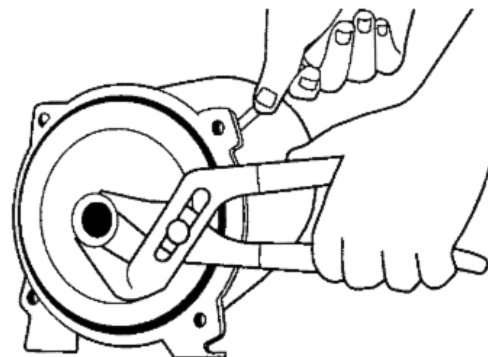

Figure 16: Remove Impeller
4. Remove the impeller by holding the pump shaft with a screwdriver placed in the slot end of the motor shaft and rotating the impeller counterclockwise (Figure 16).
3. Remove the 3 cap screws holding the diffuser to the seal plate and remove the diffuser. When replacing the diffuser, use three .010" thick shims equally spaced between the impeller eye and diffuser opening. This centers the diffusers and prevents impeller rub (Figure 16).